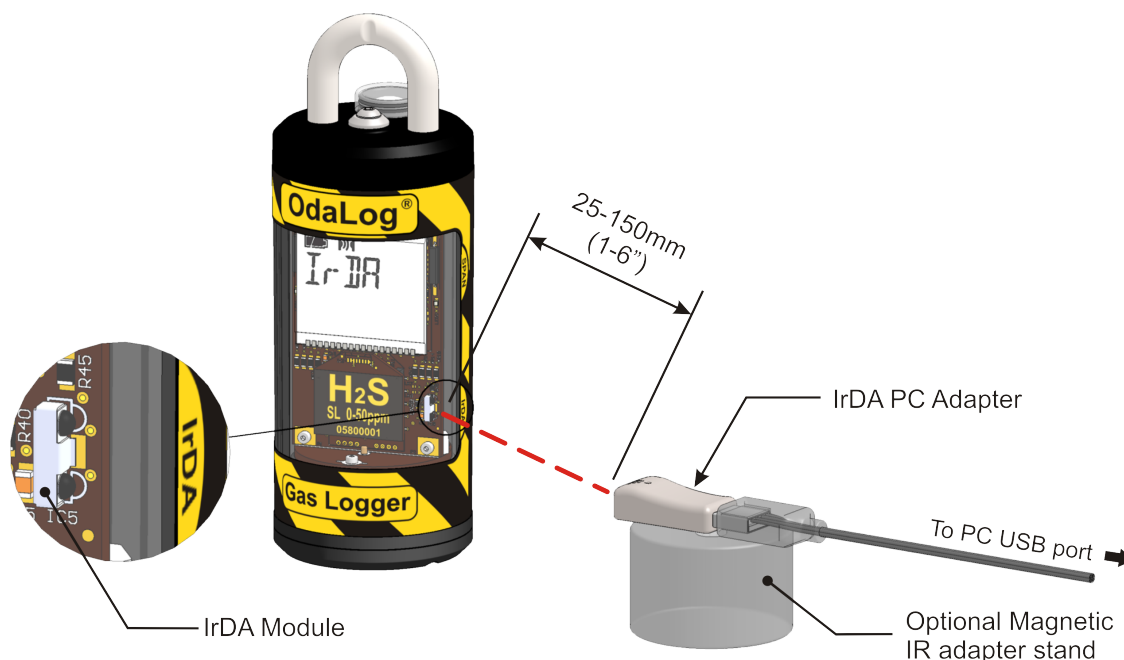

Figure 1 - I.R Communications Set-Up
- Position the OdaLog® correctly with respect to the supplied Infrared Data Communication Link as shown in Figure 1.
- Position I.R device between 25-150mm (1-6”) from the OdaLog® Instrument, ensuring line-of-sight between I.R device and the I.R module on the OdaLog®, as shown in Figure 1.